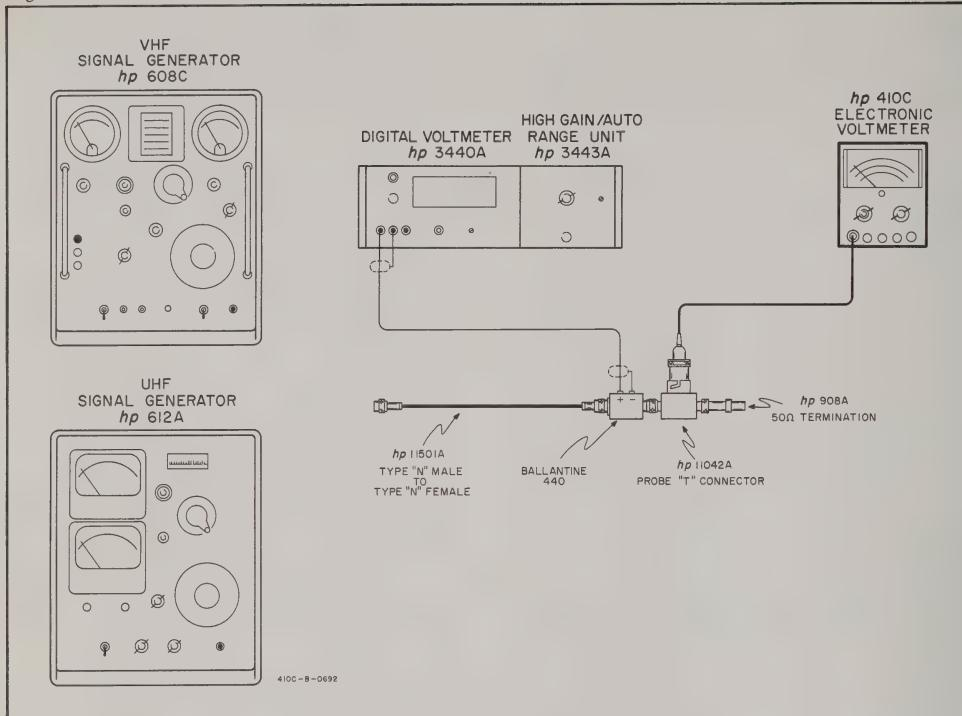

Figure 5-4. High Frequency Response Test
a Probe-T-Connector (-hp- Model 11042A), a Micropotentiometer (Ballantine Model 440), and a DC Voltmeter (-hp- Model 3440A/3441A) are required for this check. Figure 5-4 describes test arrangement to be used.
- d. Replace VHF oscillator with UHF oscillator in Figure 5-4. Repeat steps b and c for UHF oscillator output frequencies from 480 MHz to 700 MHz.